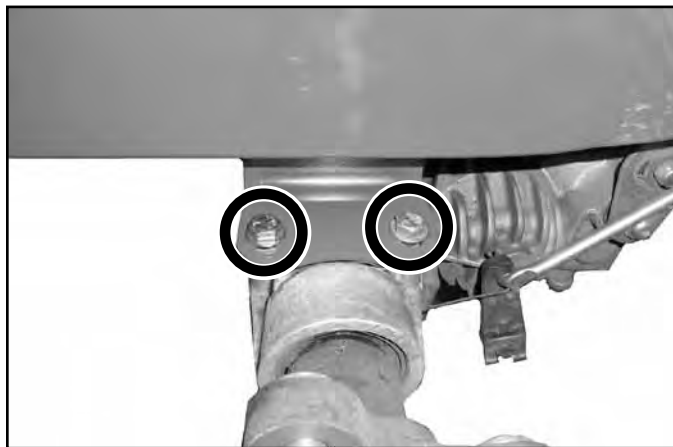

Fig. 087
4th – Torque the (2) outside hydro mount fasteners to specification – 17 ft-lbs. (23 Nm) (Fig. 087).